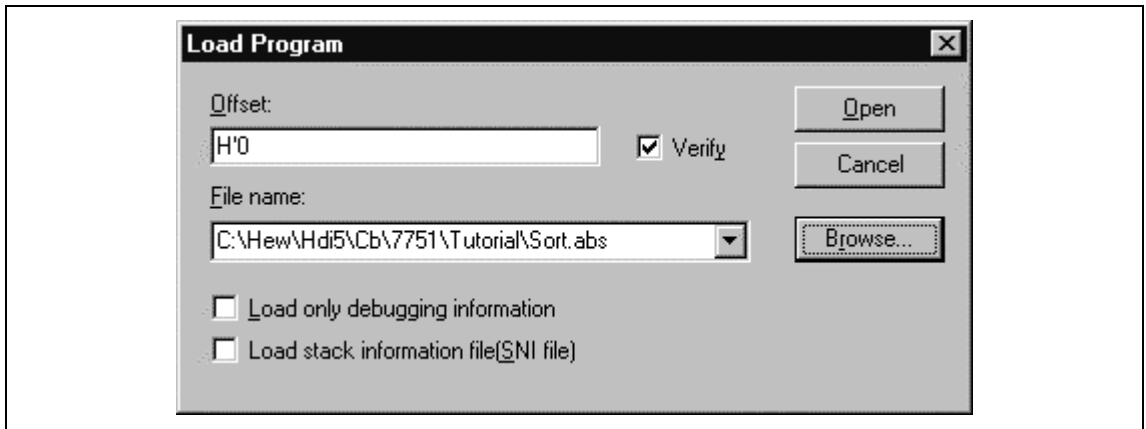

Figure 3.6 [Load Program] Dialog Box
- Select [Load Program...] from the [File] menu. The [Load Program] dialog box is displayed. Enter the offset and file name in the [Offset] edit box and [File name] list box as shown in figure 3.6 and click the [Open] button.